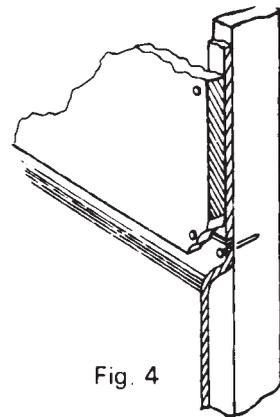

Fig. 4
11. If dry wall finish is to be used, place dry wall over fastening flange, nail dry wall and tub flange into studs, mud tape and finish. If plaster is used, nail lath over fastening flange and finish plaster to bead (Figure 4).